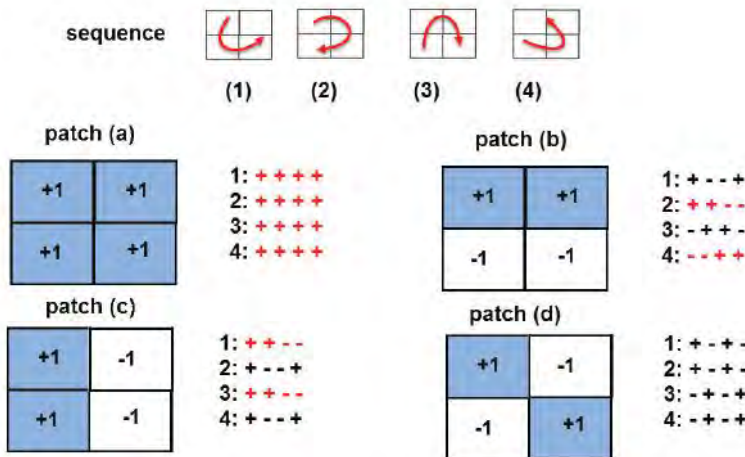

FIG. 10: Connectivity logic assessment in checkerboarding.
Various ways have been developed to suppress this effect. The mesh dependency control methods described earlier will tend to minimize the checkerboarding effect. However, relying only on these controls would mean that thin member solutions would always be suppressed, unless the controlling distance was set very close to the element size. More specifically, checkerboarding controls look directly at the connectivity logic in a group or patch of elements. This is shown schematically in Fig. 10.
one of four configurations as shown by patch (a) through patch (d) in Fig. 10. A set of four sequences (1) through (4), moving between these elements is shown in the upper sketch. A pattern describes how the elements flip between non-zero density, (+1) and zero density (-1). The various patterns are shown to the right of the patch configurations. A monotonic sequence (colored red) is defined as one that stays constant, increases or decreases. An oscillating sequence (colored black) flips between positive and negative. All patches except patch (d) show at least one example of a monotonic pattern. So, each patch of elements within the mesh is searched for at least one monotonic sequence. If none are found, then there is a checkerboard patch present; this can be eliminated by smearing effective material over all four elements in the patch.